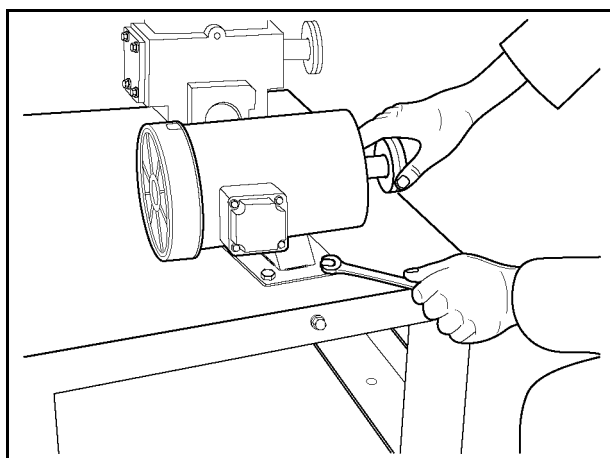

Figure 7H
8. Using four (4) 5/16" x 3/4" flange head bolts, mount the motor to the airlock deck. Place the specified pulley on to the motor shaft and align to pulley on gearbox. (See Figure 7H).